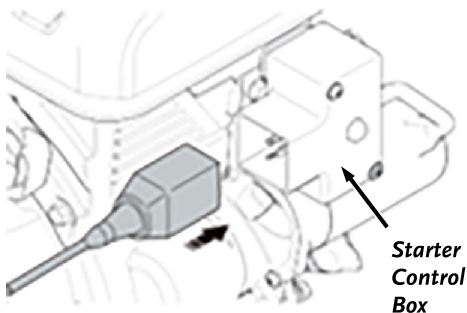

Figure 25
7. Connect the required Heavy-Duty extension cord into the SNOW BLOWER Control Box (**Figure 25**) and plug the Extension cord into a 120V outlet. Use an outdoor rated extension cord shorter than 50 feet (15m).